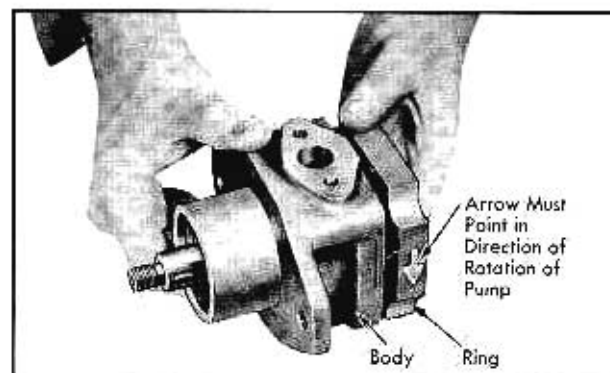

Fig. 7-21 Installing Cam Ring
9. Install cam ring on dowel pins and over rotor and vanes. Position correctly according to scribed marks, Fig. 7-21.